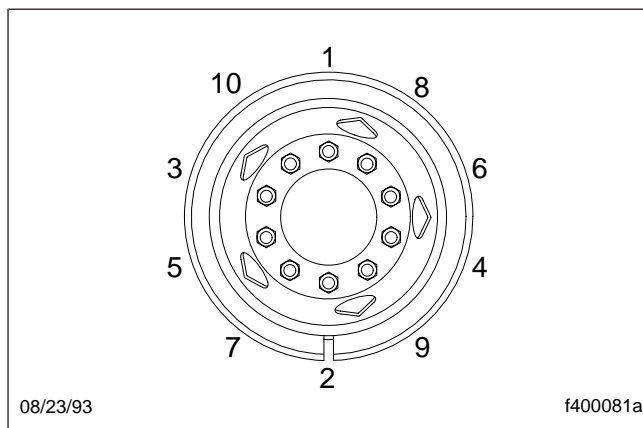
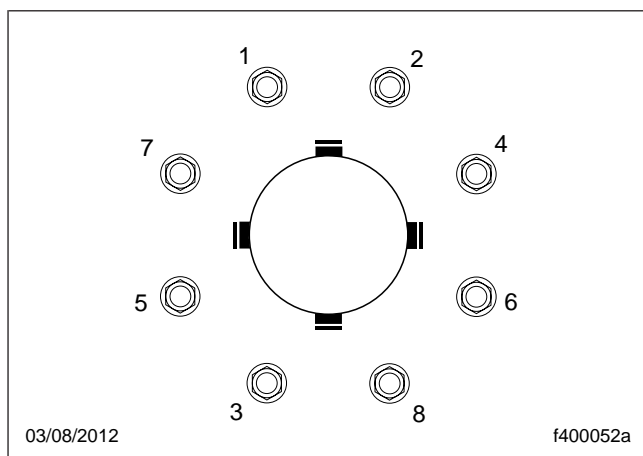

Fig. 11.4, Tightening Pattern, 10-Hole Wheels
Fig. 11.5, Tightening Pattern, 8-Hole Wheels
- 4.3 Make sure all wheel nuts are tightened. If tightening is necessary, use the tightening pattern in Fig. 11.4 or Fig. 11.5.